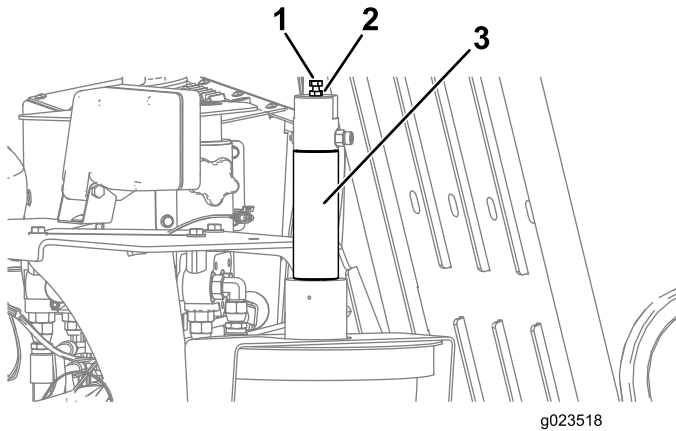

Figure 88
1. Loosen the jam nut on the adjustment bolt located on top of the TJC-applicator piston (Figure 88).